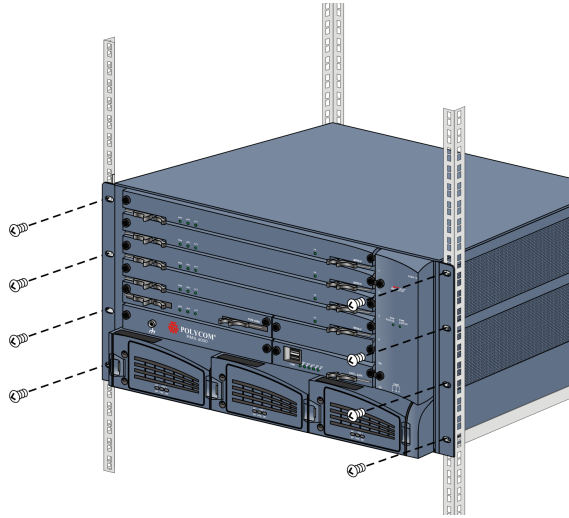

Figure 1-3 RMX 4000 Rack Mount
- 3 Fasten the RMX to the rack with 8 screws into the holes provided on the RMX's front as shown in Figure 1-3.
- 4 Fasten the RMX to the rack with 8 screws into the holes provided on the RMX's front as shown in Figure 1-3.